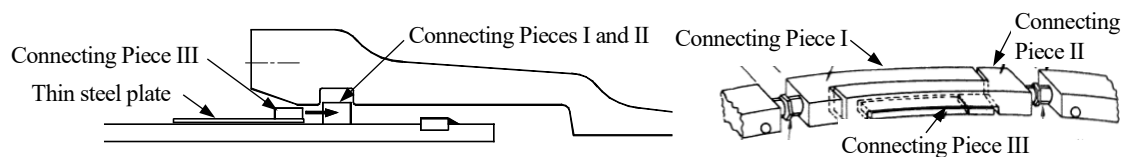

Figure-16 Insertion of Connecting Piece III
- (2) Insert the Connecting Piece III into the slot between the Connecting Pieces I and II. (See Figure-16.) Then, release and remove the Lock Ring Fastener to engage the Lock Ring.